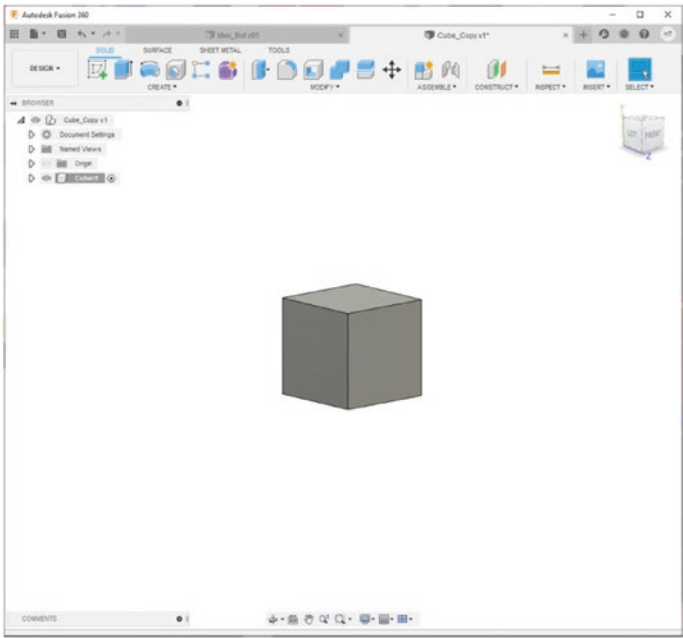

Figure 8-3. 5 x 5 x 5mm cube
- 3. Create a 5mm by 5mm by 5mm cube. See Figure 8-3.